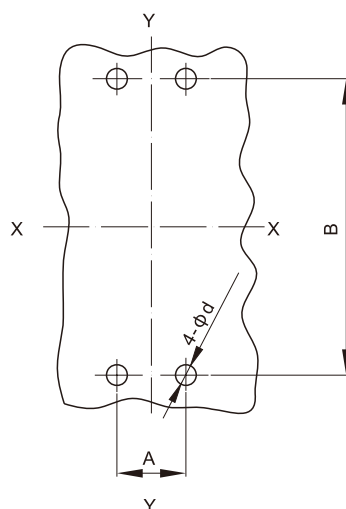

Figure 7 Front of board wiring installation board hole-opening dimensions
(1) See Figure 7 for front of board wiring installation board hole-opening dimensions (X-X, Y-Y are three-pole circuit breaker centers)